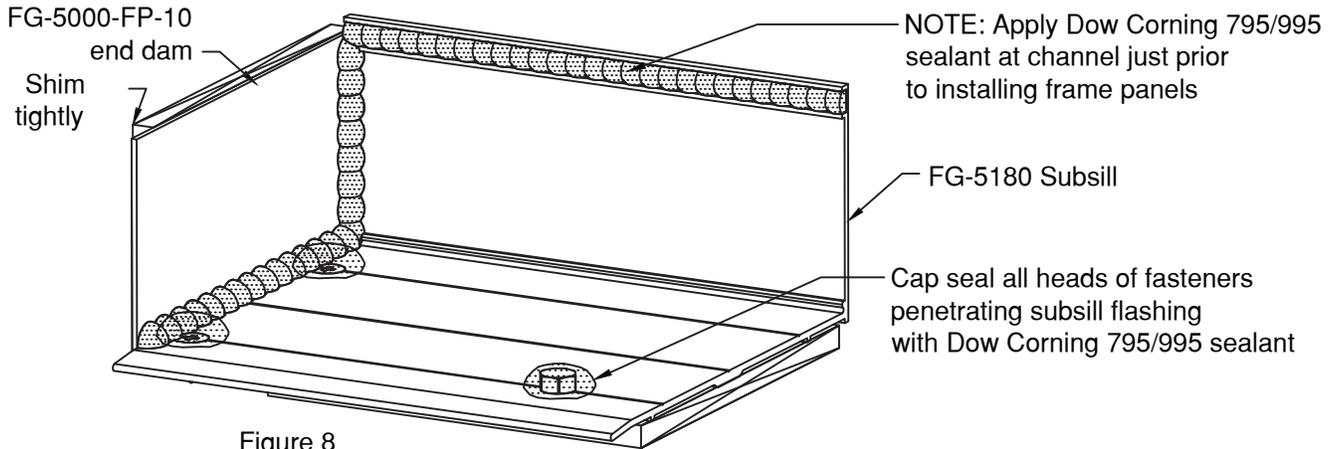

Figure 8
See figures 8 and 9 on Page13 for sealant to be applied during installation.
3.1.2 Wedge shims tightly between end dams and jamb substrate at each end prior to installing frame panels. These shims prevent the end dams from being dislodged while frame panels are being installed. Completely seal end dams as shown See Figure 8.